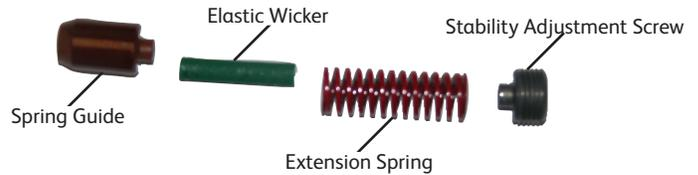

Figure 2. Stability spring kit.
- c. Remove the Extension Spring (FIGURE 2) and replace it with one of the included Extension Springs that has the proper resistance.